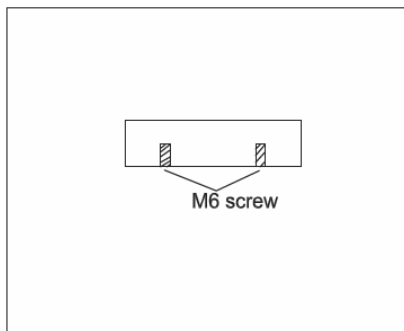

Figure 1.
1. Install the suspension cables mounting anchors. Make sure mounting hardware meets or exceeds requirements. For 2' fixtures, the mounting bolts should be 16" apart. For 4' fixtures, the mounting bolts should be 35.7" apart. **See Figure 1.**